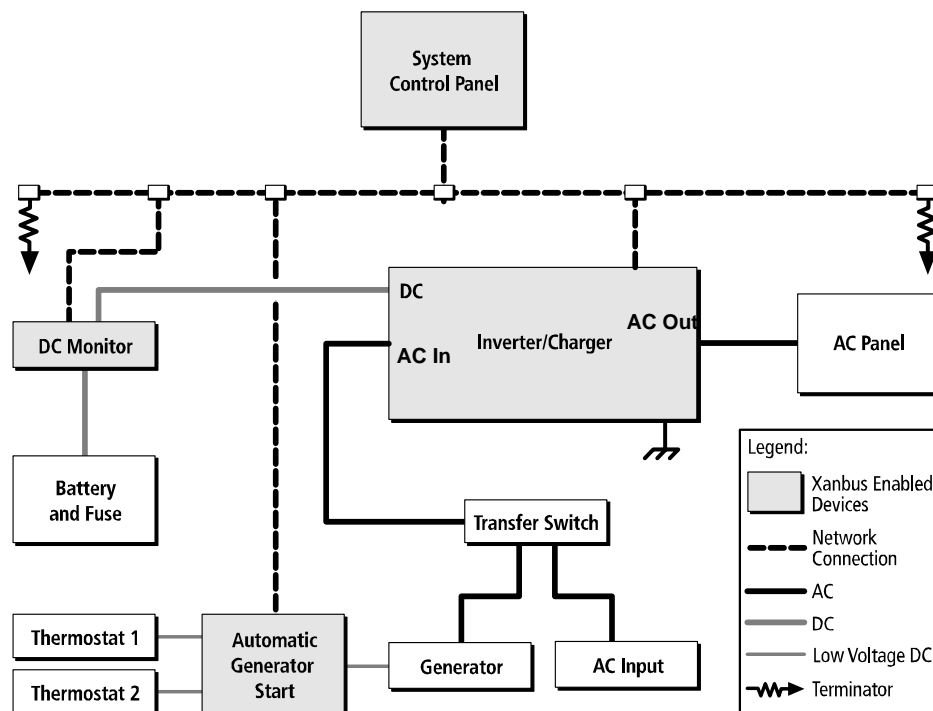

Figure 1 Typical Xanbus System Diagram
The Xanbus system includes the RS2000 Sine Wave Inverter/Charger and other Xanbus-enabled devices, as shown in Figure 1, “Typical Xanbus System Diagram”. Each Xanbus-enabled device interacts and communicates with the other devices on the network, creating a power system that can be precisely configured to your needs.
In Figure 1, network connections are represented by dotted lines and conventional electrical connections are represented by solid lines. Your system requirements may be more complex than the basic installation shown in Figure 1. Xantrex recommends that you consult a qualified installer or electrician to customize your installation to meet your requirements.
- Cables, connectors, network connectors, and terminators for the System Control Panel and Automatic Generator Start, if installing. See Figure 1.